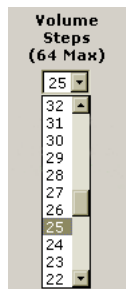

Figure 5-20— Volume steps drop-down box
3. Click on the Volume Steps (64 max) drop box (figure 5-20).